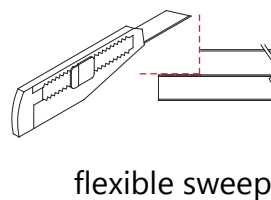

**Fig 11**
**11.** Drill holes into the aluminum profile of the **Door assembly (#02)** through the predrilled holes in the **Corner Profile (#10)** using an **Ø 1/8"** drill bit. Secure the Door assembly inside the **Corner Profile (#10)** using the **Pan Head Screws ST4.2×10 (#04)** with the raised white washers. Cover the exposed screw heads with the **Decorative Covers (#06)**. (**Fig 11**)